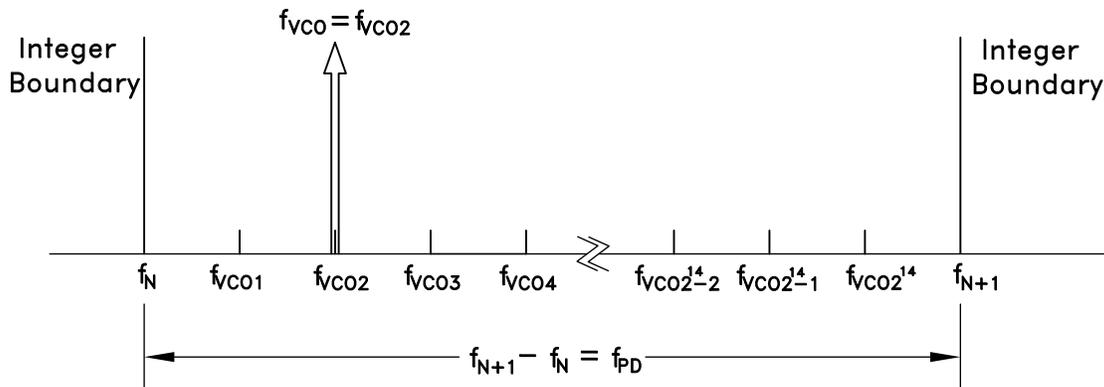

Figure 71. Exact Frequency Tuning
and f_{VCOk} are the channel step frequencies where $0 < k < 2^{24}-1$, As shown in Figure 71.
Some fractional PLLs are able to achieve this by adjusting (shortening) the length of the Phase Accumulator (the denominator or the modulus of the Delta-Sigma modulator) so that the Delta-Sigma modulator phase accumulator repeats at an exact period related to the interval frequency ($f_{VCOk} - f_{VCO(k-1)}$) in Figure 71. Consequently, the shortened accumulator results in more frequent repeating patterns and as a result often leads to spurious emissions at multiples of the repeating pattern period, or at harmonic frequencies of $f_{VCOk} - f_{VCO(k-1)}$. For example, in some applications, these intervals might represent the spacing between radio channels, and the spurious would occur at multiples of the channel spacing.
If it is desirable to have multiple, equally spaced, exact frequency channels that fall within the same interval (ie. $f_N \leq f_{VCO_k} < f_{N+1}$) where f_{VCO_k} is shown in Figure 71 and $1 \leq k \leq 2^4$, it is possible to maintain the same integer-N (Reg 03h) and exact frequency register (Reg 0Ch) settings and only update the fractional register (Reg 04h) setting. The Exact Frequency Channel Mode is possible if EQ 16 is satisfied for at least two equally spaced adjacent frequency channels, i.e. the channel step size.
To configure the HMC1190ALP6NE for Exact Frequency Channel Mode, initially and only at the beginning, integer (Reg 03h) and exact frequency (Reg 0Ch) registers need to be programmed for the smallest f_{VCO} frequency (f_{VCO1} in Figure 71), as follows:
1. Calculate and program the integer register setting $\text{Reg 03h} = N_{INT} = \text{floor}(f_{VCO1}/f_{PD})$, where f_{VCO1} is shown in Figure 71 and corresponds to minimum channel VCO frequency. Then the lower integer boundary frequency is given by $f_N = N_{INT} \cdot f_{PD}$.
$\text{Reg04h} = N_{FRAC} = \text{ceil}\left(\frac{2^{24}(f_{VCO_k} - f_N)}{f_{PD}}\right)$ where $f_N = \text{floor}(f_{VCO1}/f_{PD})$, and f_{VCO1} , as shown in Figure 71, represents the smallest channel VCO frequency that is greater than f_N .
4. To change from channel 1 ($f_{VCO1} = 2800.2$ MHz) to channel 2 ($f_{VCO2} = 2800.3$ MHz), only Reg 04h needs to be programmed, as long as all of the desired exact frequencies f_{VCOk} (Figure 71) fall between the same integer-N boundaries ($f_N < f_{VCOk} < f_{N+1}$). In that case